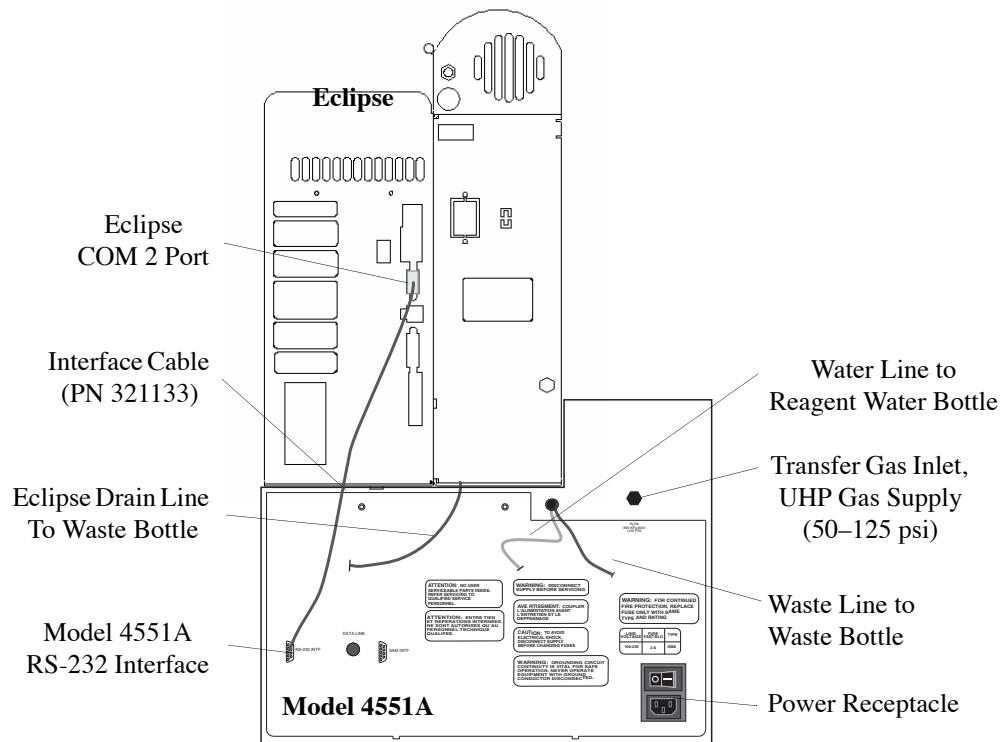
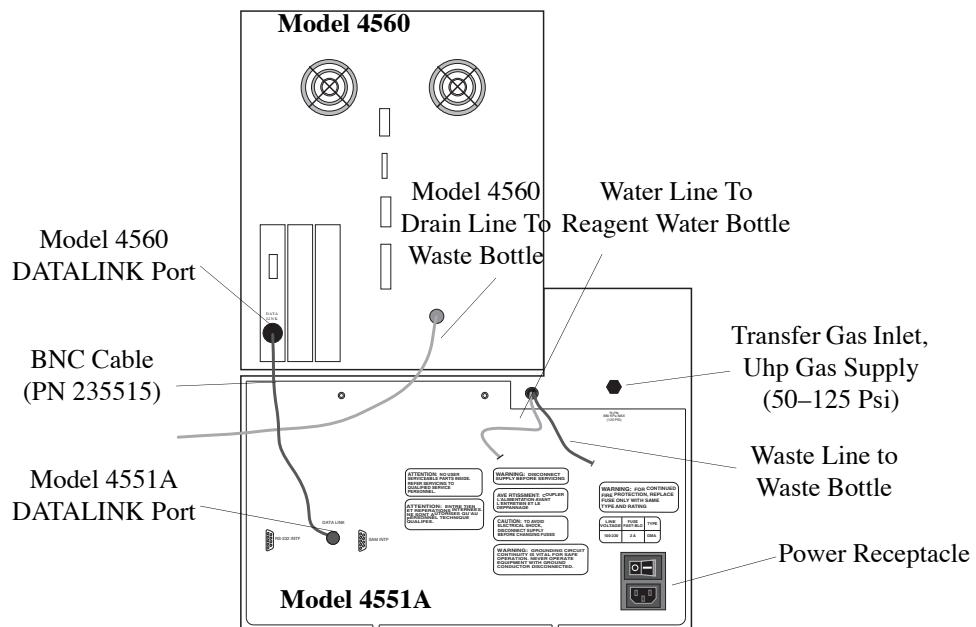

Figure 3.1. Model 4551A Electrical and Plumbing Connections to the Eclipse
Figure 3.2. Model 4551A Electrical and Plumbing Connections to the Model 4560
2. Connect the other end of the cable to the port labeled "COM 2", as depicted in Figure 3.1.
1. Connect one end of the three-foot BNC cable (PN 235515) to the DATALINK port on the back of the autosampler, as depicted in Figure 3.2.
2. Route the 1/8" copper tubing from the UHP He or N₂ tank to the transfer gas inlet port on the autosampler back panel and connect using a 7/16" open-ended wrench, as depicted in Figure 3.1 and Figure 3.2.